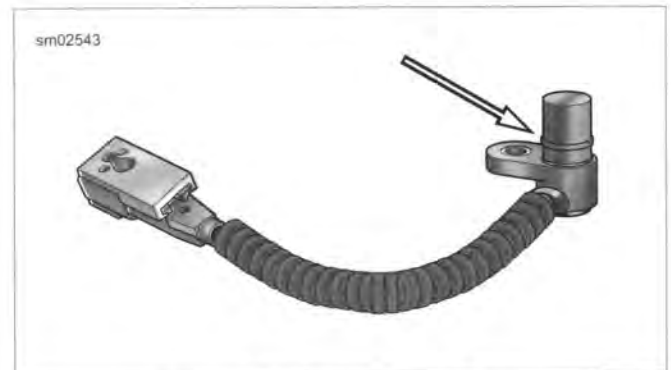

Figure 7-54. CKP Sensor O-Ring
1. See Figure 7-54. Lubricate CKP sensor O-ring with clean engine oil.